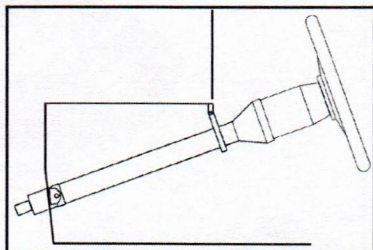

Figure 1
***The steering column must be supported at the dash with a dash mount and supported where it protrudes through the firewall with a floor mount. (Figure 1)***